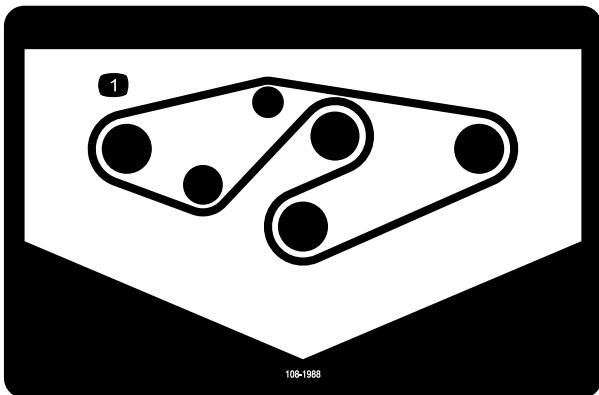

Figure 37
- Route the new belt around the spindle pulleys and idler pulley assembly as shown in Figure 37.